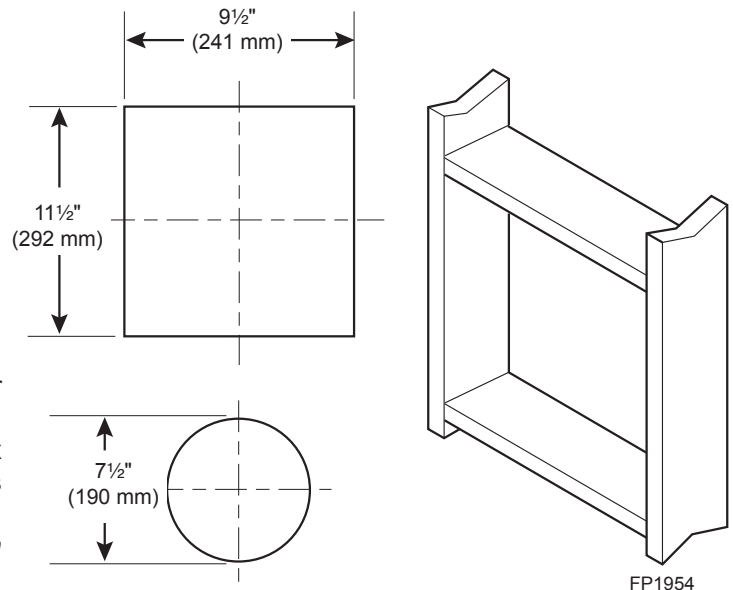

Figure 17 - Vent Opening Requirements
Combustible Walls: Cut a 11 1/2"H x 9 1/2" W (292 x 241 mm) hole through the exterior wall and frame as shown. *Figure 17*
3. Attach vent pipe assembly to the fireplace. Set fireplace in front of its permanent location to insure minimum clearances. Mark the wall for a 11 1/2"H x 9 1/2"W (292 x 241 mm) rectangle hole (for noncombustible material such as masonry block or concrete, a 7 1/2" [190 mm] diameter hole is acceptable). *Figure 17*. The center of the hole should line up with the center line of the horizontal rigid vent pipe end. Be sure to allow for minimum rise. Cut a 11 1/2"x9 1/2" rectangle hole through combustible exterior wall (7 1/2" diameter hole if noncombustible). Frame as necessary. Allow 1/4" minimum rise per foot. *Figure 17*
1. Establish vent hole through the wall. *Refer to Page 18, Figure 17*
3. Cut a hole in the roof using the locating hole as a center point. (Cover any exposed open vent pipes before cutting hole in roof). The 9½" x 9½" (241 x 241 mm) hole must be measured on the horizontal. Actual length may be larger depending on the pitch of the roof. There must be a 1" minimum clearance from the vent pipe to combustible materials. (Insulation should be considered a combustible material) Frame the opening as shown on Page 18, Figure 17.